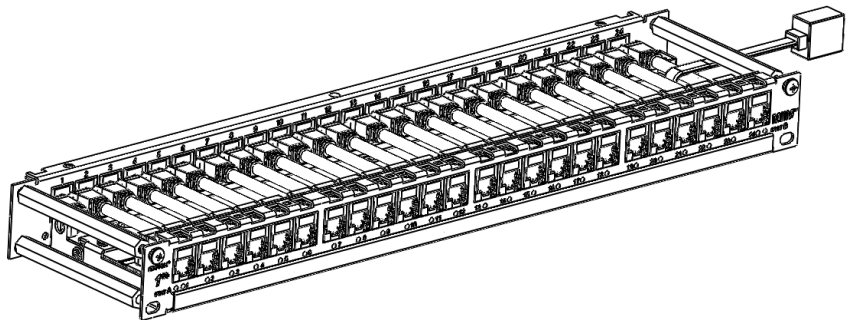

Figure 4
10. Connect MIIM panel through the scanner connector to the MIIM Scanner with a Category 5e or better patch cord (see Figure 4). The panel is powered by the scanner and will automatically turn on. Power is indicated by the Stat B LED on the front of the panel.